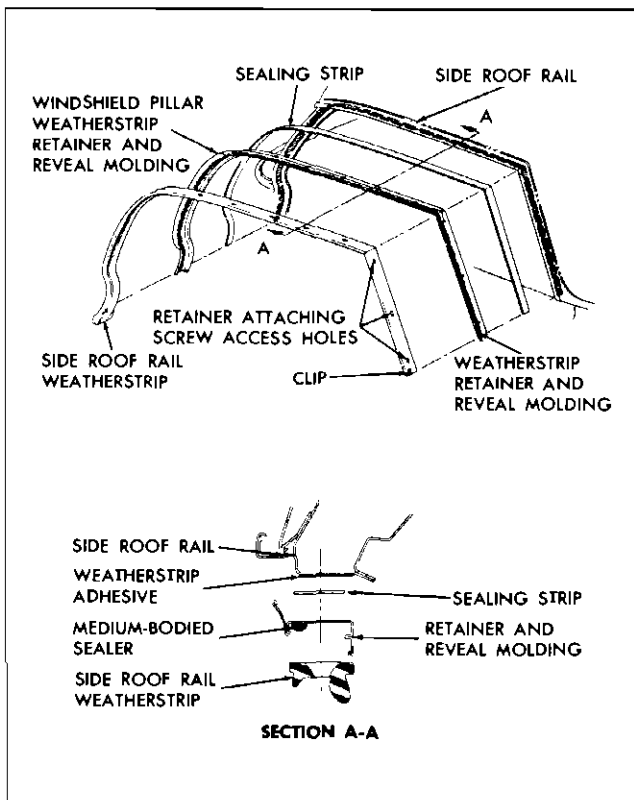

Fig. 2-3 Side Roof Rail Weatherstrip
5. At front corner of rear door (at belt), apply weatherstrip cement to facing of formed end of weatherstrip and corresponding surface of door inner panel and cement weatherstrip in place. Replace forward snap fastener only (Fig. 2-3).
2. Apply a continuous bead (approximately $\frac{3}{16}$ " diameter) of medium-bodied sealer along entire outboard surface of weatherstrip retainer and reveal molding (Section A-A, Fig. 2-3).
The attaching holes in the side roof rail weatherstrip retainer are elongated allowing "in and out" adjustment of the side roof rail weatherstrip; however, the amount of adjustment is small and is not intended to correct improper ventilator or door window alignment. The retainer attaching screws are located under the weatherstrip; however, it is NOT necessary to remove the weatherstrip to adjust the retainer. Weatherstrip retainer attaching screw access holes have been provided in the weatherstrip assembly (Fig. 2-3).